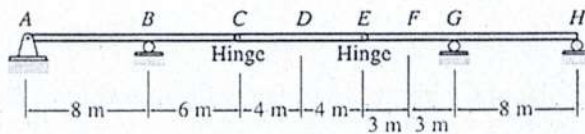

Figure:2
2. (a) A six-story reinforced concrete (RC) residential building is located in Sylhet, Bangladesh, which lies in Seismic Zone 4 according to BNBC 2020. Each story of the building has a height of 3 m, and the depth of the foundation below ground level is 2 m. The plan dimensions of the building are 20 m × 20 m. The damping correction factor (η) is 1.2. The dead load, including the self-weight of the structural components, is 10 kN/m², while the live load is 2 kN/m² for the typical floors and 1 kN/m² for the roof. The site has an average SPT (N_{30}) value of 13. In accordance with the provisions of BNBC 2020, determine the design earthquake base shear and the lateral forces at each story level using the Equivalent Lateral Force Procedure. The necessary reference tables and information's are provided. 06
- (b) Draw the qualitative influence line diagram for the vertical reactions at supports *A* and *B* and for the shears and bending moments at points *D* and *F* of the beam shown in Figure 2 below. 04